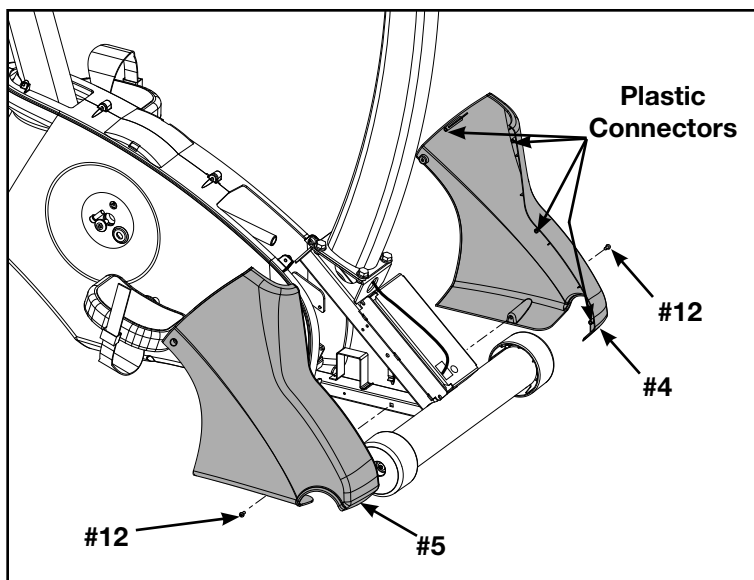

Figure 5
- A. Locate and place the front left cover (#4) on the front of the unit as shown in Figure 5.
NOTE: In addition to the mounting screws, there are four plastic connectors that secure the front covers together. Ensure that all four plastic connectors are inserted properly in each front cover. See Figure 5.
- C. Locate and place the front right cover (#5) on the front of the unit as shown in Figure 5.
- D. Using a Phillips screwdriver, secure with one screw 8-16 x .50" (#12). See Figure 5.